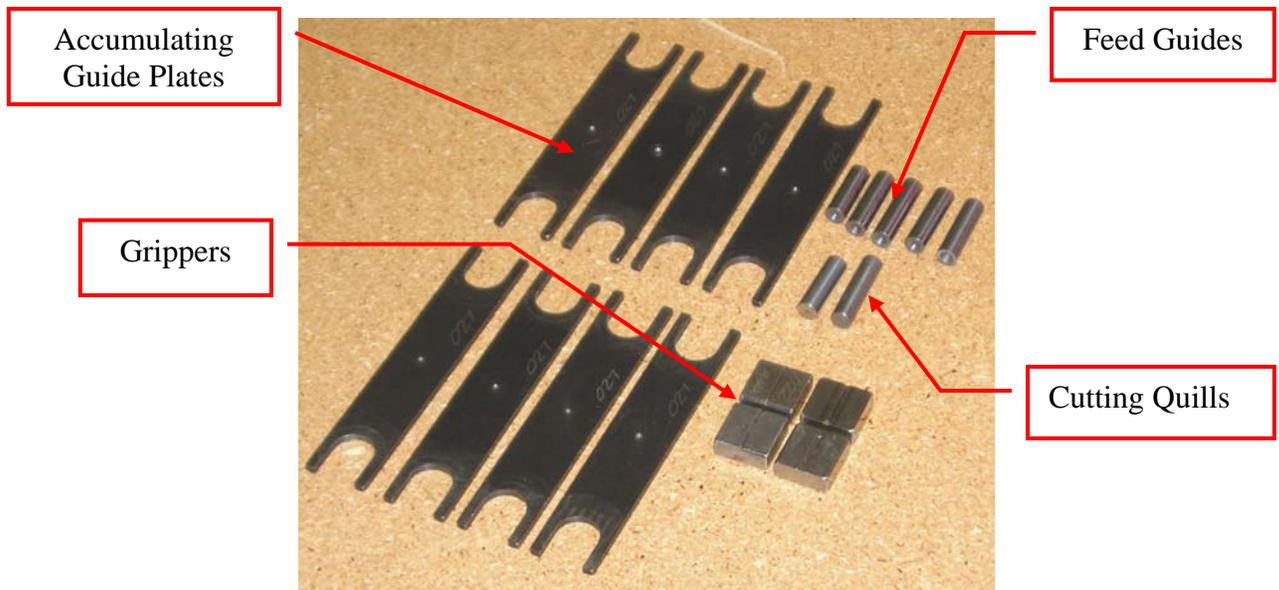

Fig 1 (Series #02 tooling shown)
Step 3 Separate the corresponding washers on the other shaft and pull them apart far enough to swing the other end of the guide plate between the shafts and slip the cutout end of the plate over the shaft. (fig. 1)
The result should be a washer on each side of the accumulating guide plate backed by a spring. (fig. 1)